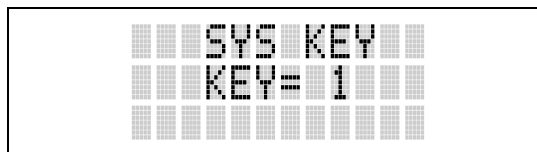
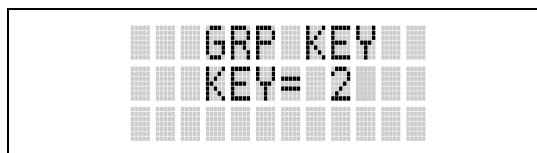

Figure 10-11: System Encryption Key Display
Figure 10-12: Group/Channel Encryption Key Display
3. Use the  or  button to toggle between displaying the system key (Figure 10-11) or the group/channel key (Figure 10-12).